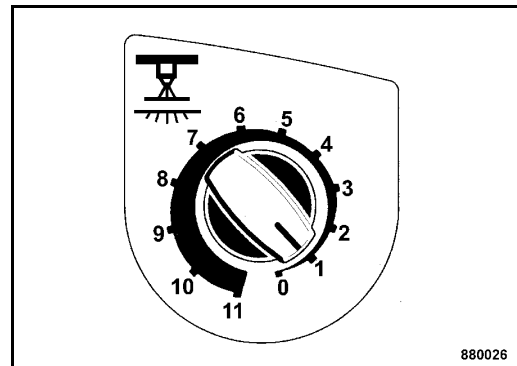

Fig. 81
- Switch the interval switch for pressure sprinkling (Fig. 81) to the desired flow interval.